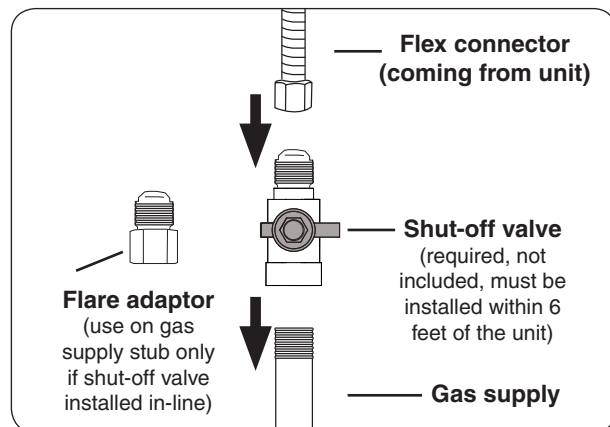

Fig. 17-3 Connecting to a gas line
- Connect the flex connector to the shut-off valve (see Fig. 17-3). Tighten securely.
- Install the supplied flare adaptor to the gas supply using a pipe joint compound resistant to all gasses (see Fig. 17-3). Tighten securely.
- Connect the flex connector to the flare adaptor (see Fig. 17-3). Tighten securely.